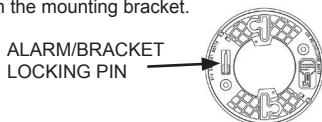

FIGURE 1
**OPTIONAL TAMPER RESISTANT FEATURE:** The tamper resistant locking feature for this model deters someone from removing the alarm from the mounting bracket. The breakaway locking pin is clearly marked and molded into the mounting bracket. Refer to Figure 1.